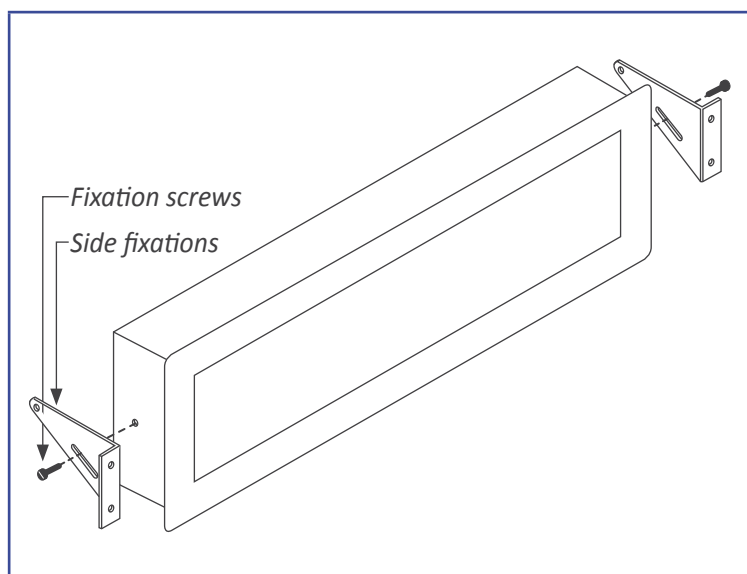

Figure 12 - Panel mount
- Panel mount. Apply the cut-out to the panel as seen on section 1.4. Remove the side fixations. Introduce the instrument into the panel cut-out. Mount the side fixations as shown (see Figure 12). Slightly loosen the fixation screw of one side and press the instrument against the panel. Tighten the fixation screw so it presses the panel and maintains the fixation. Repeat with the opposite side fixation.